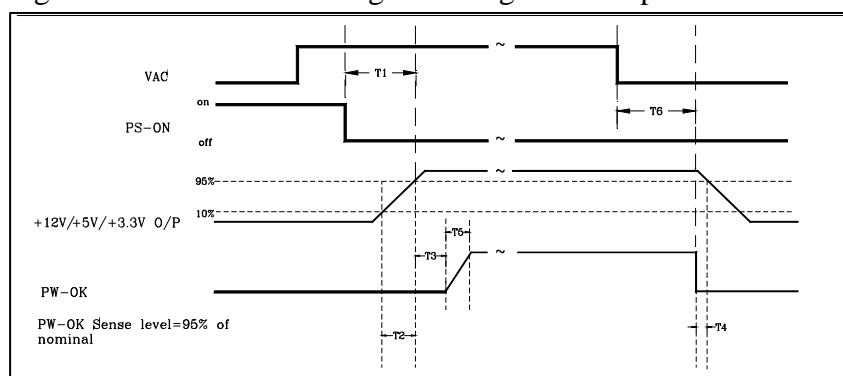

Figure 4. PS-OK Timing Sequence
Figure 4 is a reference for signal timing for main power connector signals and rails.
(1) For example, for a rated +5 VDC output of 18A,the transient step would be 30% x 18A=5.4A Output voltages should remain within the regulation limits of Section 2.1,and the power supply should be stable when subjected to load transients per Table 13. from any steady state load, including any or all of the following conditions:
4.3 Hold up time (T6 of figure 4.)